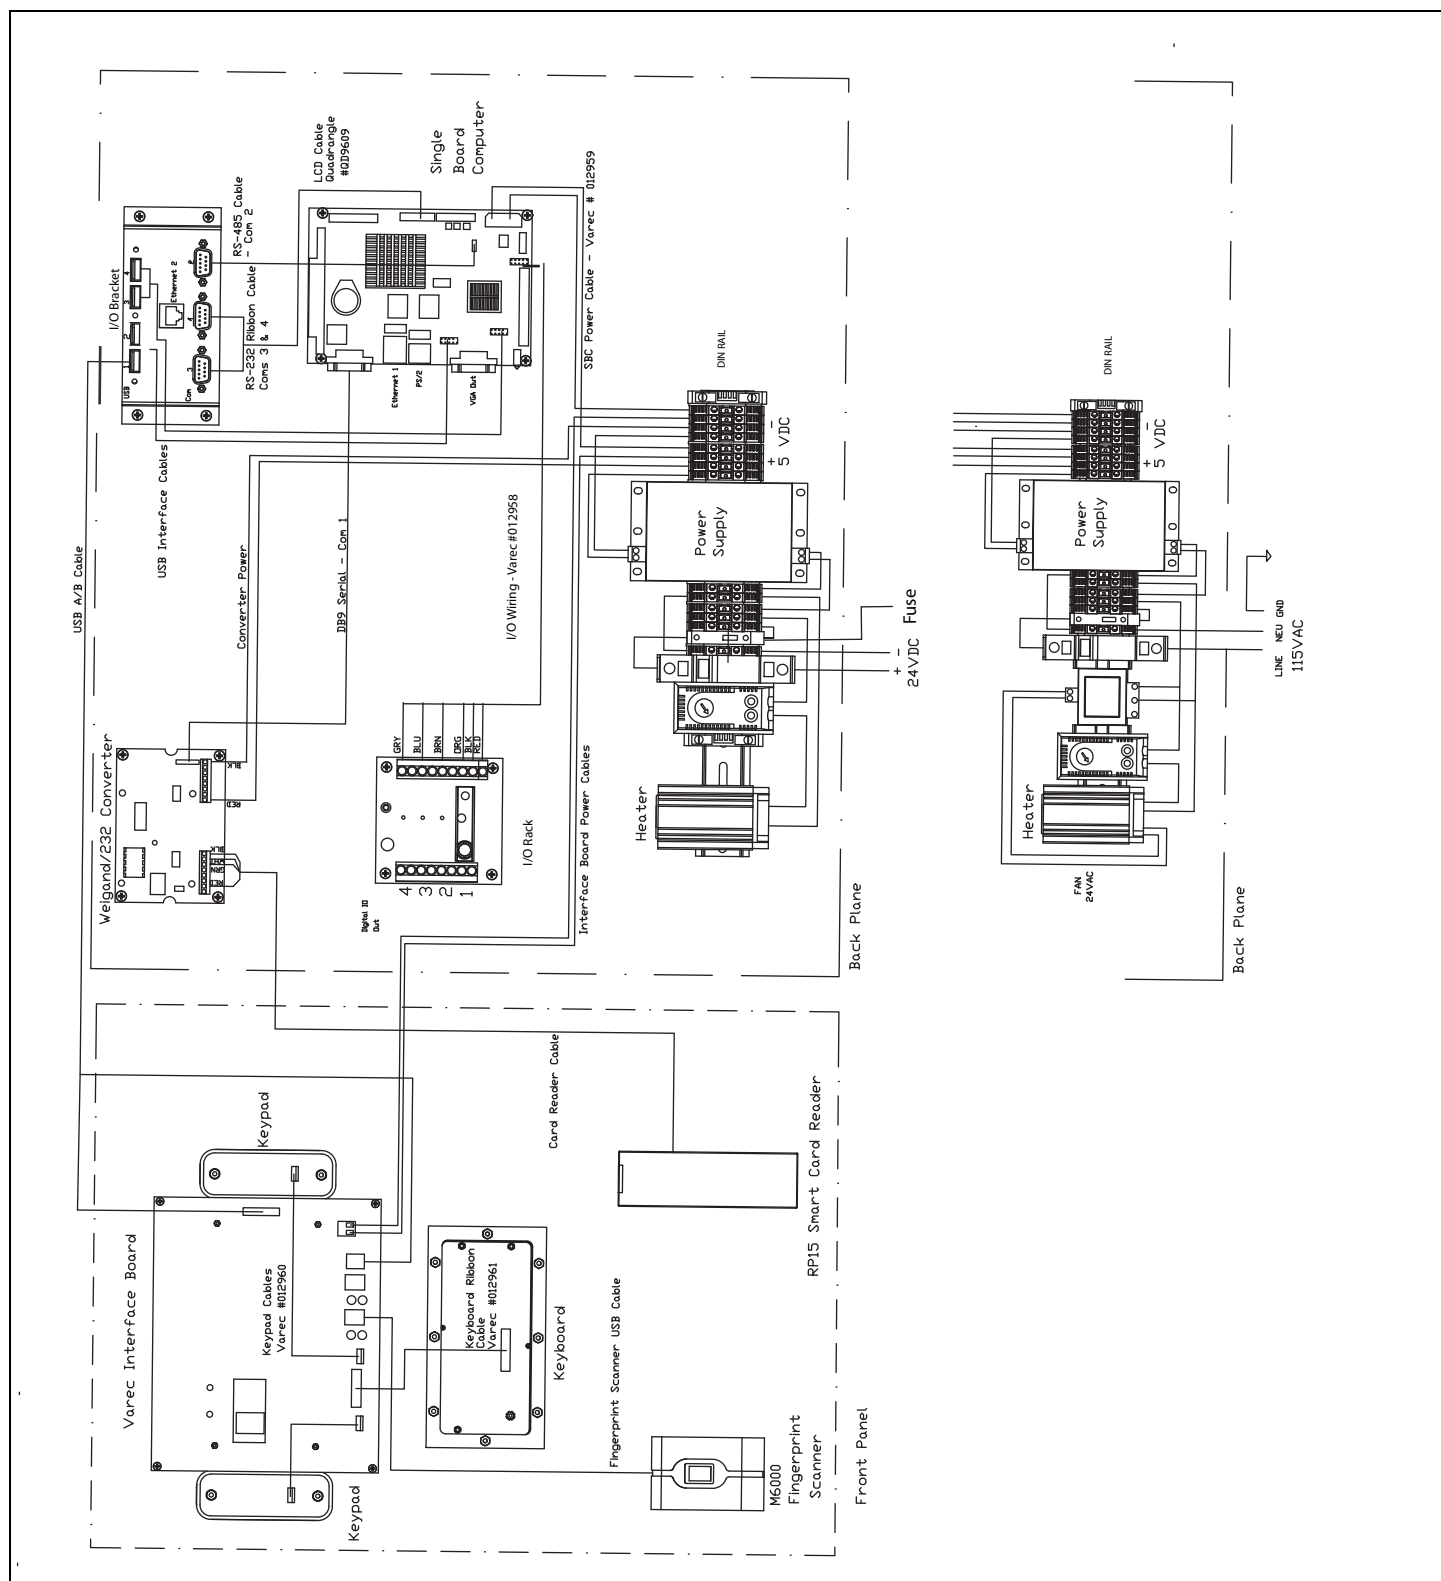

Figure 3-1: 8620 DET Internal Wiring
1. Connect the 20 – 72 VDC positive wire to the bottom of the terminal switch as shown in Figure 3-1.
1. Connect the hot wire to Terminal Switch as shown in Figure 3-1.
2. Connect the neutral wire to Terminal as shown in Figure 3-1.
RS-485 is the default setting used for Com 2 as shown in Figure 3-1.
The 8620 DET has two 100-Base-T Ethernet jacks. One is located on the side of the single board computer. The second one is located on the communications terminal as shown in Figure 3-1. These standard 8-pin RJ-45 connectors are used for ethernet wiring.